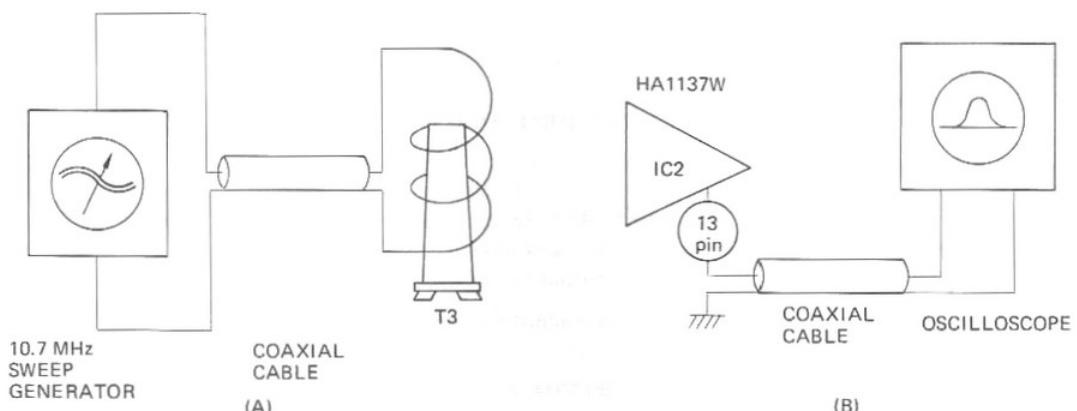

Figure 3.
- 1) Couple the output of the sweep generator to T3 (RF Transformer) through a coupling coil (2 turns of vinyl wire) as shown in Figure 3 (A).
- 2) Connect the detector probe to the pin 13 of IC2 and "G" (ground) as shown in Figure 3 (B). probe lead should be short as possible and the ground lead should be connected to chassis ground.